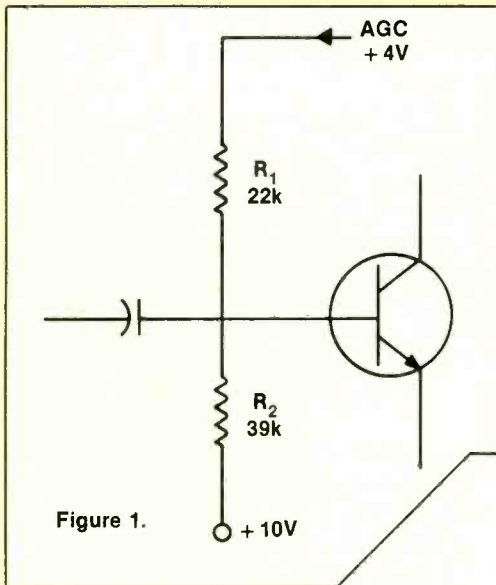

Figure 1.
1. You are measuring the voltage on the base of the transistor in Figure 1. The voltage should be about